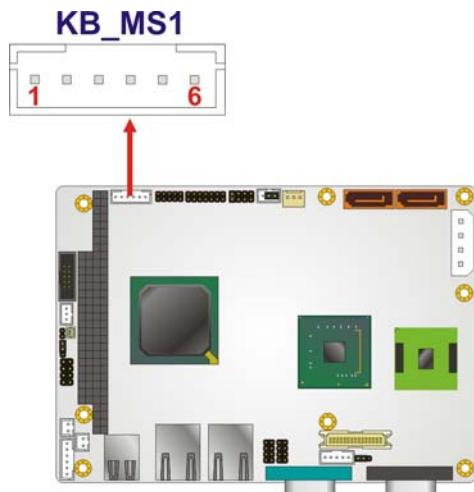

Figure 3-11: Keyboard/Mouse Connector Location
**CN Location:** See Figure 3-11